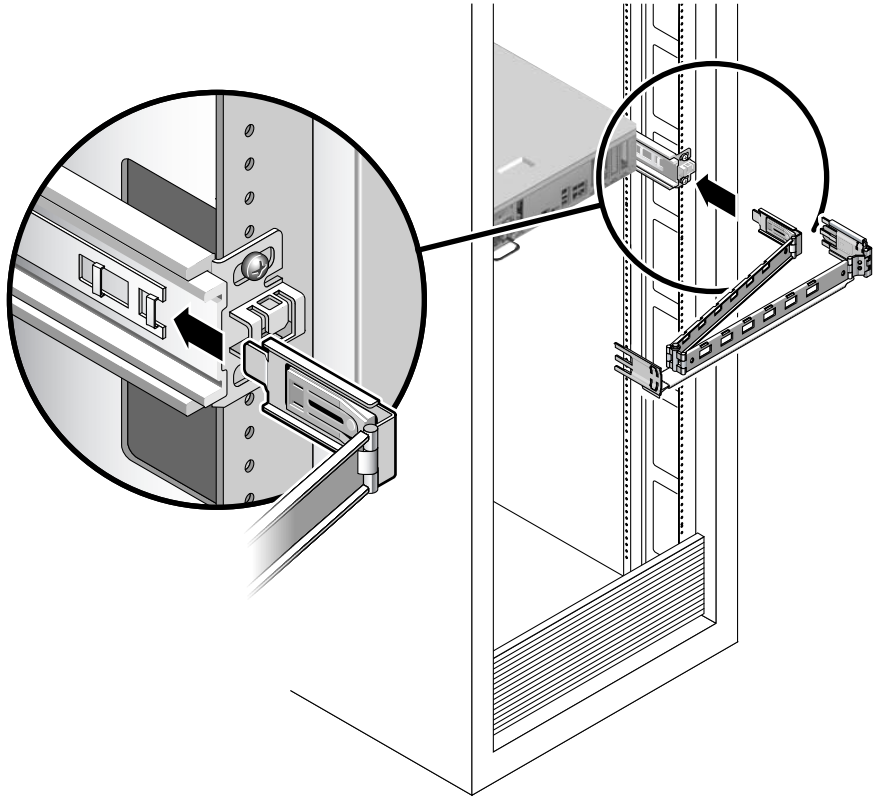

FIGURE 5-32 Installing the CMA
- a. Insert the inner latch (smaller, right side) into the clip located at the end of the mounting bracket (FIGURE 5-32).